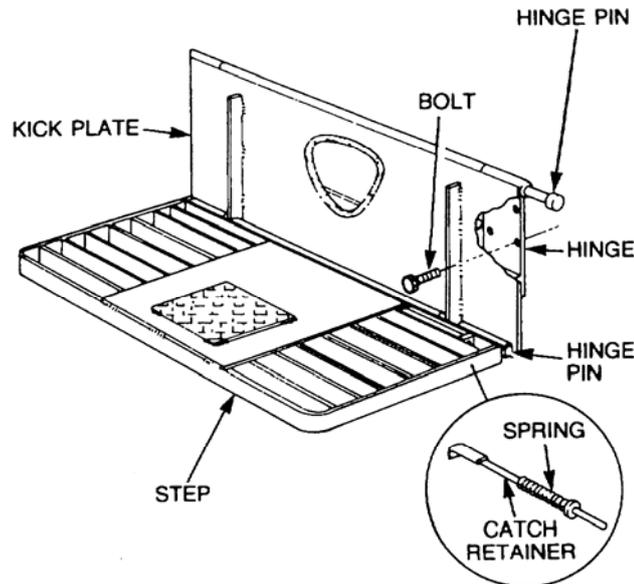

Figure 30 Rear Step Exploded View
- a. From the left side of the step and using a suitable drift, drive the hinge pin through the hinges (refer Figure 30).